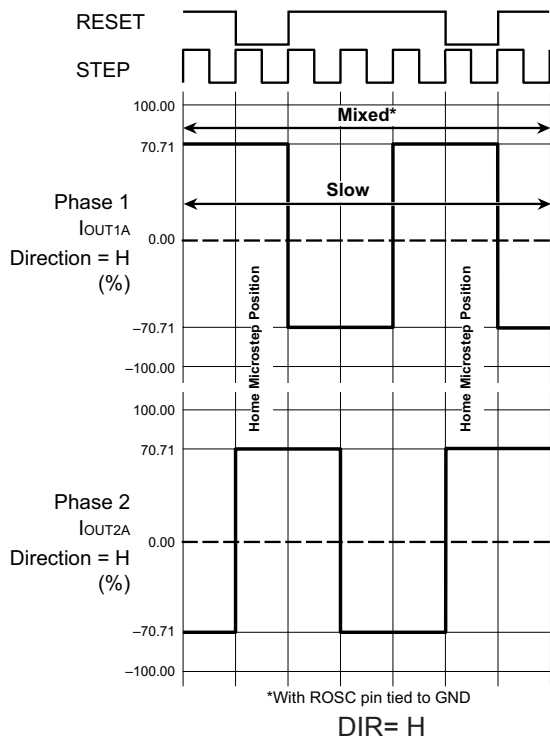

Figure 10: Decay Mode for Full-Step Increments
At power-on or reset, the translator sets the DACs and the phase current polarity to the initial Home state (shown in Figures 10 through 13), and the current regulator to Mixed decay mode for both phases. When a step command signal occurs on the STEP input, the translator automatically sequences the DACs to the next level and current polarity. (See Table 2 for the current-level sequence.) The microstep resolution is set by the combined effect of the MSx inputs, as shown in Table 1.
**Reset Input ( $\overline{RESET}$ ).** The  $\overline{RESET}$  input sets the translator to a predefined Home state (shown in Figures 10 through 13), and turns off all of the FET outputs. All STEP inputs are ignored until the  $\overline{RESET}$  input is set to high.
**Mixed Decay Operation.** The bridge operates in Mixed decay mode, at power-on and reset, and during normal running according to the ROSC configuration and the step sequence, as shown in Figures 10 through 13. During Mixed decay, when the trip point is reached, the A4982 initially goes into a fast decay mode for 31.25% of the off-time,  $t_{\text{OFF}}$ . After that, it switches to Slow decay mode for the remainder of  $t_{\text{OFF}}$ . A timing diagram for this feature appears in Figure 7.
| 5        | May 7, 2014    | Revised Fixed Off-Time section and Figure 10 |